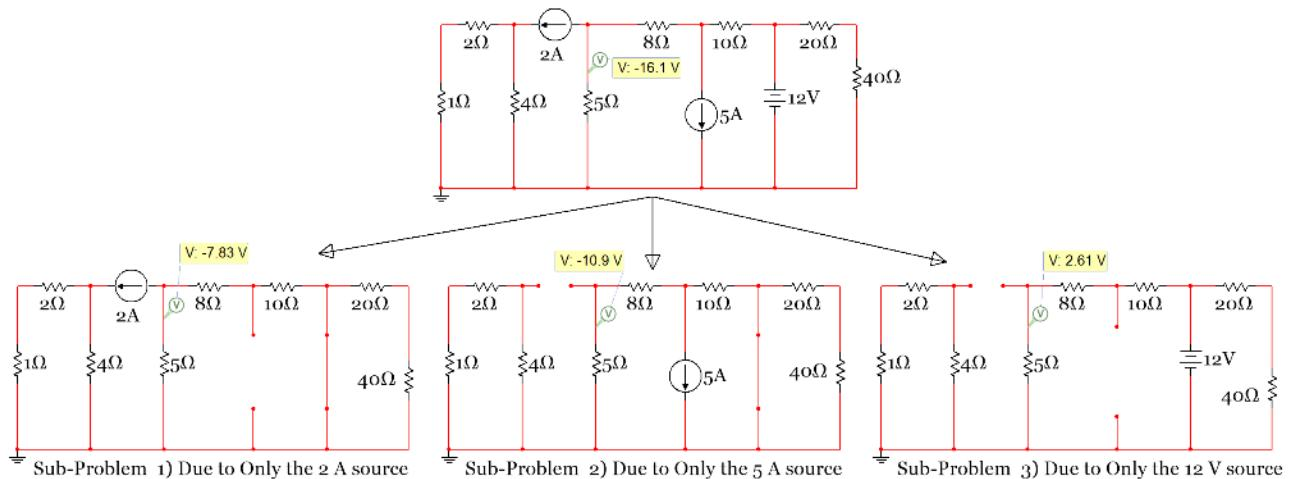
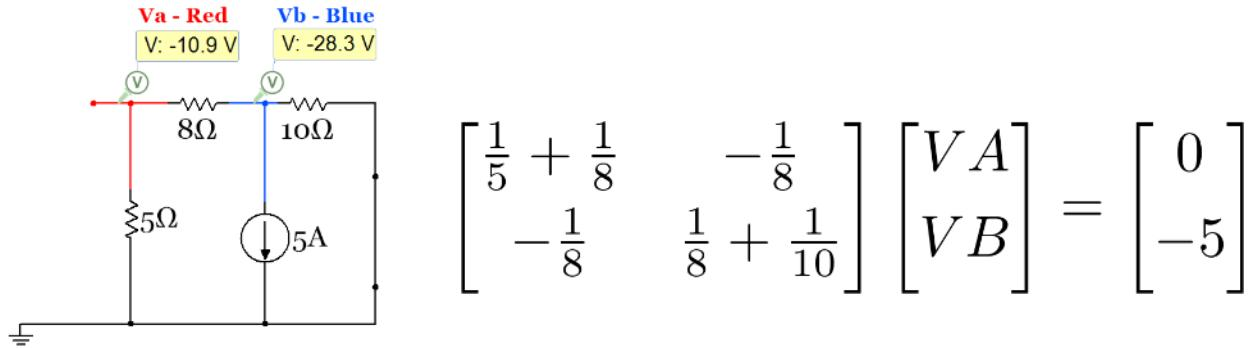

Figure 2.38: Circuit for Example 2.17
Figure 2.40: Circuit and Nodal Matrix equation for sub-problem 2 of Example 2.17
The two tricky situations mentioned above can be seen in the circuit in Figure 2.38. Situation 1 (described above) applies to the sub-problems 1 and 2 circuit in Figure 2.38 where the short circuit is in parallel with a resistor network. The 20Ω and 40Ω resistors are in series and can be added to equal 60Ω . That 60Ω resistor is in parallel with the short circuit (0Ω). As stated previously the end result will be the short circuit remaining and the 20Ω and 40Ω resistors being shorted out (as shown in Figure 2.40).
Situation 2 (described above) applies to the sub-problem 2 and 3 circuit in Figure 2.38 where the open circuit is in series with a resistor network. The network containing the 1Ω , 2Ω , and 4Ω resistors are in series with the open circuit so these resistors will have no effect on the results because no current will
Since there are 3 independent sources in this circuit it requires 3 sub-problems when using the superposition solving technique. First, $V_{5\Omega}$ will be solved Due to Only the \$2\text{ A}\$ source (bottom-left circuit in Figure 2.38). Notice how the $20\ \Omega$ and $40\ \Omega$ resistors are “shorted out” and the two wires from the 5 A source are removed. The $1\ \Omega$ and $2\ \Omega$ resistors are in series so they are added together and the $8\ \Omega$ and $10\ \Omega$ resistors are in series so they are also added together. By making these simplifications the number of nodes is reduced from 4 to 2 (not counting the reference node). These are allowable simplifications since the only voltage we are solving for is the voltage across the $5\ \Omega$ resistor and it is not involved in the simplification.
Next, $V_{5\Omega}$ will be solved Due to Only the 5 A source (bottom-middle circuit in Figure 2.38). The $20\ \Omega$ and $40\ \Omega$ resistors are removed due to “situation 1” described previously and the network containing the $1\ \Omega$, $2\ \Omega$, and $4\ \Omega$ resistors are removed from the circuit due to “situation 2” described previously. After redrawing the circuit, it is also a Nodal Matrix problem with a 2×2 A matrix as shown below.
Solving the Nodal Matrix equation gives $V_A = -10.87$ V and $V_B = -28.26$ V (which matches the Multisim voltage probe values shown in Figure 2.40). $V_{5\Omega_2} = V_A = \underline{-10.87}$ V
Finally, $V_{5\Omega}$ will be solved Due to Only the 12 V source (bottom-right circuit in Figure 2.38). Again, the network containing the $1\ \Omega$, $2\ \Omega$, and $4\ \Omega$ resistors are removed from the circuit due to “situation 2” described previously. After redrawing the circuit, it is shown to be a simple 2 loop Mesh Matrix problem.
Solving the Mesh Matrix equation gives $I_1 = -521.74$ mA and $I_2 = 200$ mA (which matches the Multisim current probe values shown in Figure 2.40). $V_{5\Omega_3} = -I_1 \cdot 5 = \underline{2.6087}$ V
- $V_{5\Omega} = V_{5\Omega_1} + V_{5\Omega_2} + V_{5\Omega_3} = -7.826 \text{ V} - 10.87 \text{ V} + 2.6087 \text{ V} = \underline{-16.088 \text{ V}}$ (Matches the value in Figure 2.38)